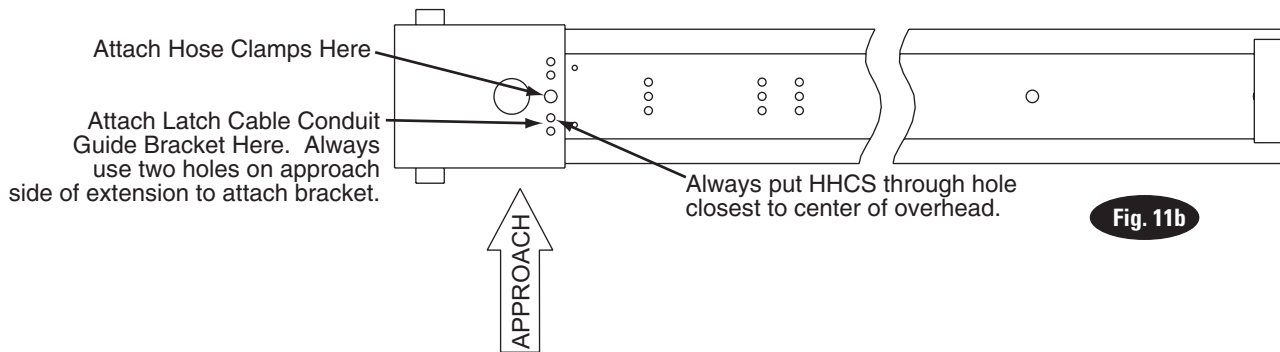
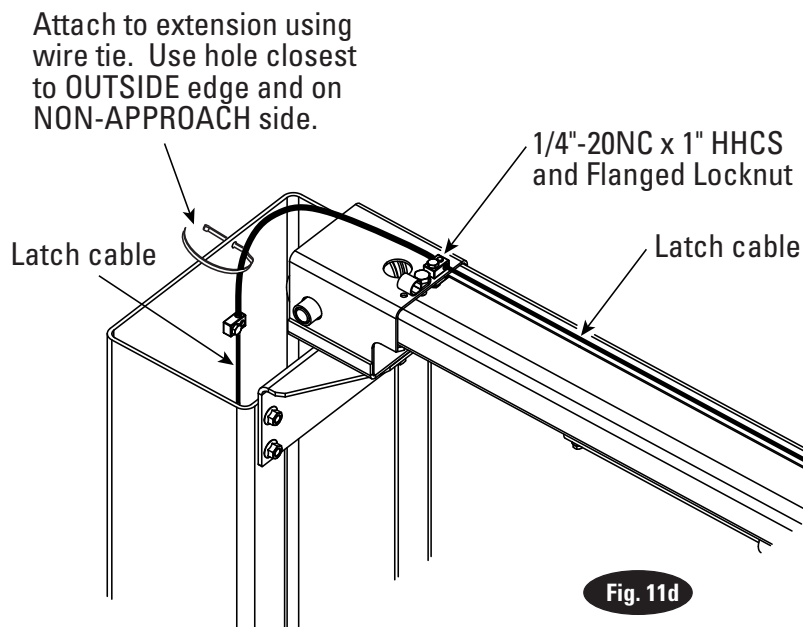
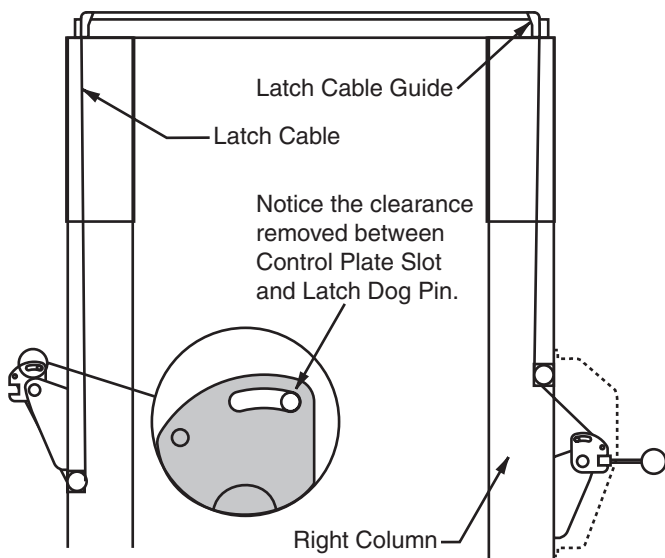
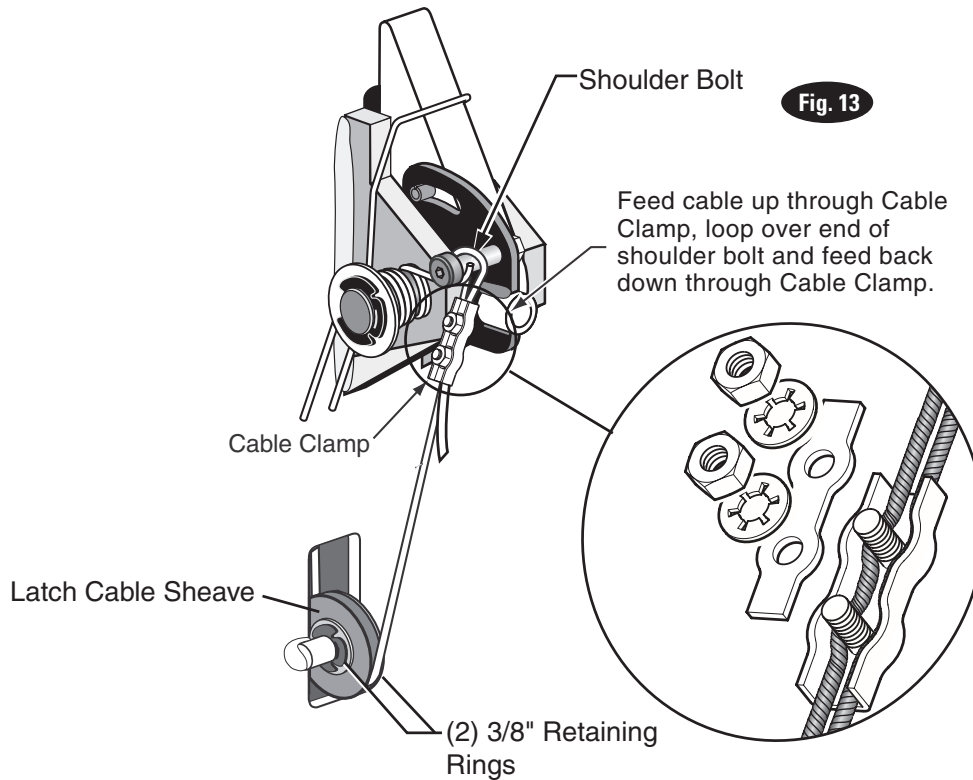

Fig. 11b
Fig. 11d
Fig. 12
Fig. 13
- D) Attach latch cable conduit guide brackets to overhead as shown, Fig. 11b & Fig. 11d. Always use the holes on the approach side of the lift. HHCS should be in hole nearest the center of the overhead, Fig. 11b.
- E) Route cable up inside column and through the latch cable guide, Fig. 11d & Fig. 12.
Using wire ties provided, tie off cable guide to column extension as shown, Fig. 11d. Guide must be attached in hole closest to the outside edge of the column on the NON-APPROACH side.
- F) Continue routing cable to the left column latch cable guide, Fig. 11d & Fig. 12, routing the cable through the left column latch cable guide, Fig. 11d.
- G) Bring the cable down inside the left column and feed the end of the cable through the lower latch cable sheave slot so that the cable is now back outside the column, Fig. 13.
- H) Install latch cable sheave and retaining rings in lower slot of non-power unit column as shown, Fig. 13.
- I) Route cable under the bottom side of the latch cable sheave, Fig. 13.
- K) Insert cable in cable clamp along one side, loop around shoulder screw and back down, inserting cable along other side of cable clamp, Fig. 13. Place top back on clamp, barely tightening.
- L) Next, pull the control plate down, Fig. 12 & Fig. 13, to eliminate any clearance between the control plate slot and the latch dog pin, Fig. 12.